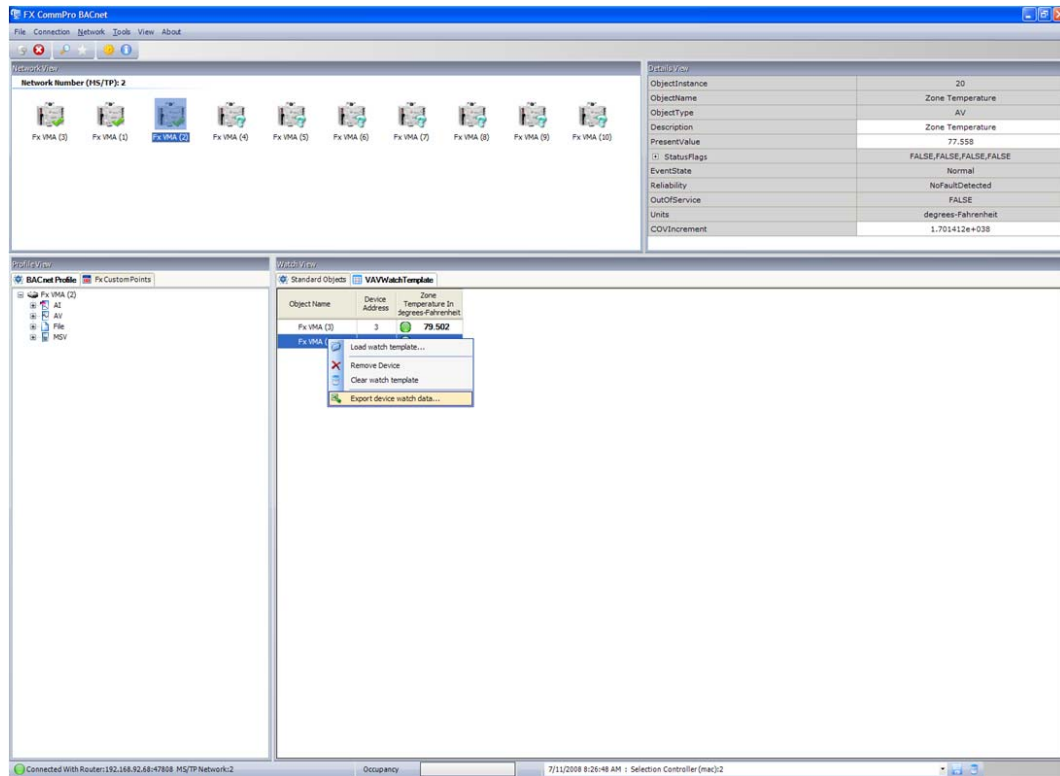

Figure 37: Exporting Watch Data
2. Select Export device watch data (Figure 37). Microsoft Excel opens and displays the data you exported.